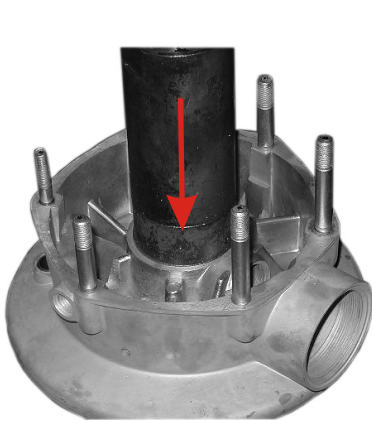

Fig. 68.
- Press in the external cage of the hub roller bearing into the final drive gear case using the mandrel (Fig. 68)